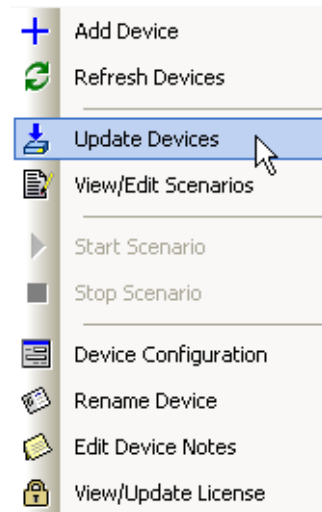

Figure 3.10 Device Pop-Up Menu
- Step 2** After selecting the device, right click and choose **Update Device** from the Popup menu (Figure 3.10).